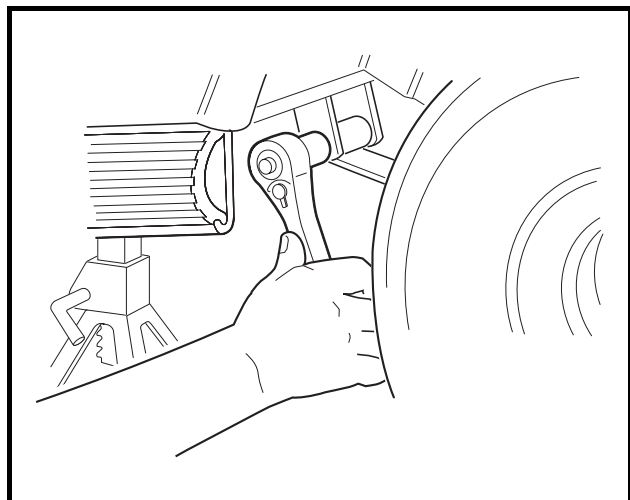

Figure 18-23 Spring Retainer Bolts
9. Remove the bolts securing the leaf springs to their front mounts (**Figure 18-23, Page 18-10**).